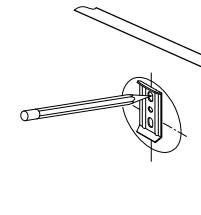
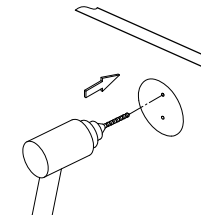

Fig. 2
Fig. 3
Step 2. Place the mounting plate in the center of the pencil outline you just made and mark the location of the mounting screws (fig 2). Drill holes at the marked locations (fig 3).